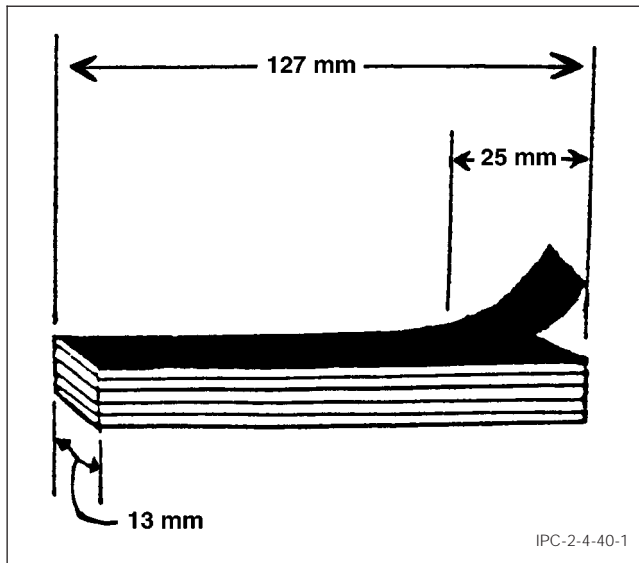

Figure 1 Laminate Dielectric
3 Test Specimen Laminate dielectric with or without copper foil, prepared in accordance with Figure 1.
5.1.2 After lamination and cure, cut the panel into 25 mm strips, as shown in Figure 1, and remove internal release sheets.